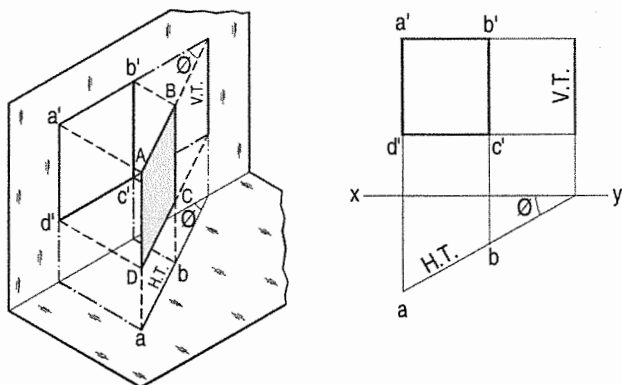

FIG. 12-3
- (a) Plane, perpendicular to the H.P. and inclined to the V.P. (fig. 12-3).